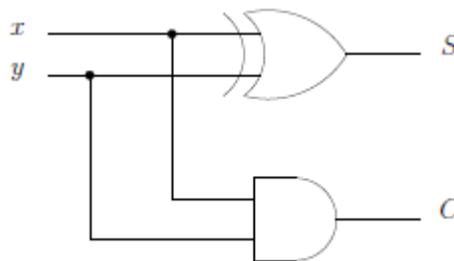

Figure 1. Half Adder Circuit
1. Write a gate-level Verilog program to implement the half adder circuit shown in Figure 1.